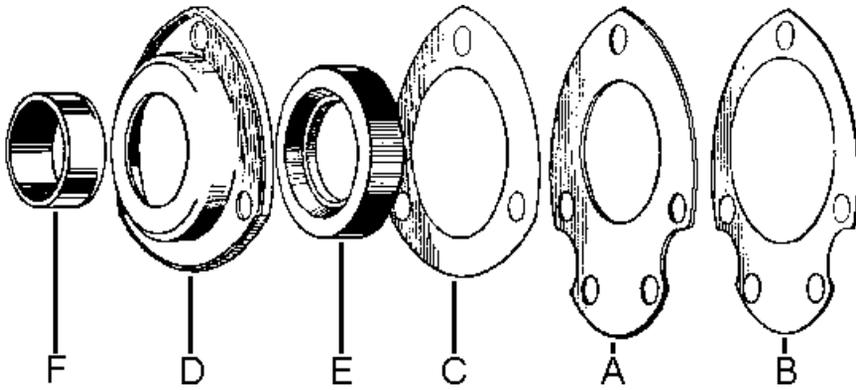

Fig. D11a. *The Oil Seal Assembly.*
Next secure the gearbox mainshaft ball race and layshaft bush retaining end plate (A) Fig. D11a. part number 90-0133, on the nearside case with its two $\frac{3}{16}$ in. cheese-headed screws, followed by the triangular oil seal housing washer (C) part number 90-0073, the mainshaft oil seal housing (D) part number 90-0072, and the oil seal (E) part number 89-3006, with the steel sleeve (F) part number 90-0071, in the centre of the assembly. Note that a gasket (B) is fitted between the end plate and the crankcase.